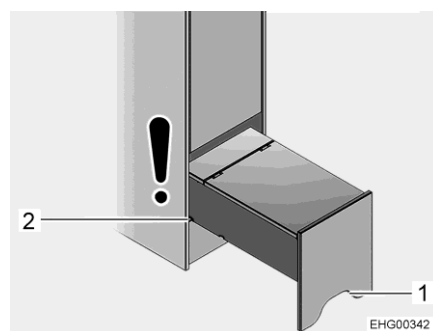

Fig. 95 Access assistance (fully pulled out)
- Grab the access assistance by the cut-out (Fig. 95,1), lift it slightly and pull it out up to the second groove (Fig. 95,2).